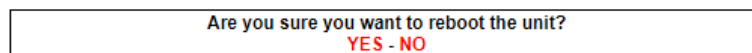

Figure 61. Configurator GUI (unit reboot dialog)
- The unit reboot dialog will be shown (Figure 61 (page 142)).